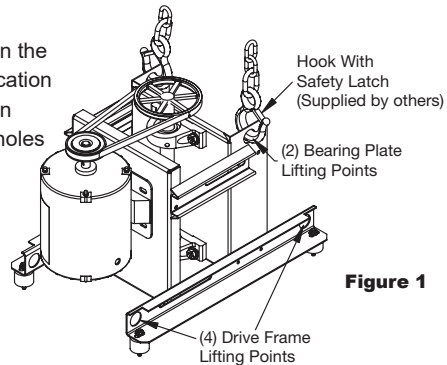
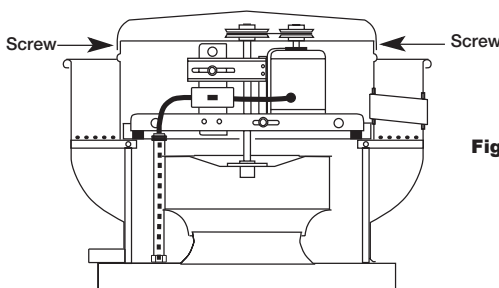

Figure 1
Figure 2
When lifting a belt drive unit onto the roof, use either the four lifting points on the drive frame or the two lifting points on the bearing plate if present, see Figure 1 for lifting points. Access to the drive frame is accomplished by removing the screws pointed out in Figure 2. The cover can then be removed and placed on a flat surface in an area protected from strong winds.
3. Remove motor cover. Access to the motor compartment is accomplished by removing the screws as shown in Figure 2, page 10.
4. On belt drive fans, use the lifting lugs on the drive frame or bearing plate to lift and place the unit on top of roof curb. Refer to Figure 1, page 10.